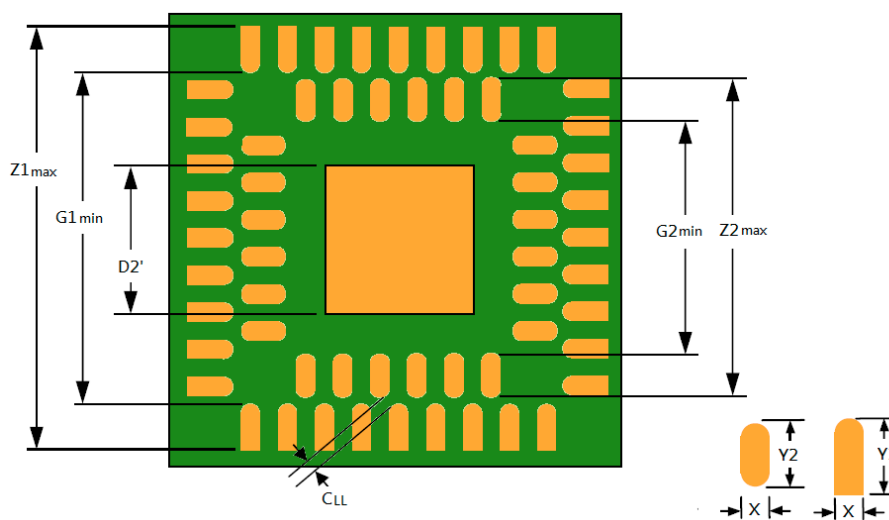

Figure 3
Refer to Figure 3, according to supplier Amkor's recommendation; the land width (X) for both inner and outer rows is needed. Based on history of single row QFN, a lead width (X) of 0.280mm was chosen for 0.500mm pitch. Outer row land pattern dimension Z1Max is calculated using standard IPC methodology and expressed in terms of nominal body size dimension: